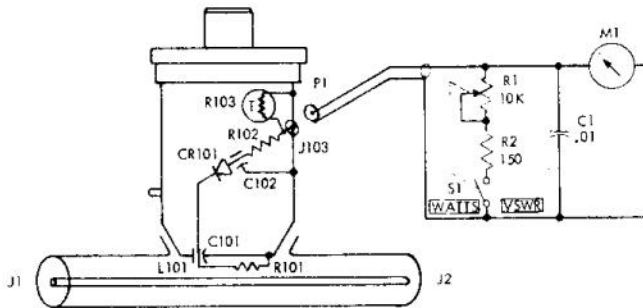

Figure 2. Bi-Directional Power Monitor, Schematic Diagram
4.01 The 164B is made up of a 50 ohm coaxial primary line section and an indicating meter mounted in a suitable case. The primary line section is so designed that when the element is properly clamped in place there will be a minimum effect on the VSWR of the line. The meter is a sensitive 25 microammeter that reads directly the output of the element to indicate power. When switched to the direct reading VSWR position, a calibrating network is connected across the meter. See Schematic Diagram Figure 2.
4.03 The secondary line loop, L101, terminated on one end with R101 and on the other end by the meter rectifier diode, CR101, forms the directional coupler (see Figure 2). C101 and the rf input resistance to the rectifier diode are a frequency compensating circuit that provides a constant coupling factor. C102 is a storage capacitor and R102 the rectifier diode load resistance. R102 also serves as the meter sensitivity resistor. R103 is a temperature compensating thermistor.